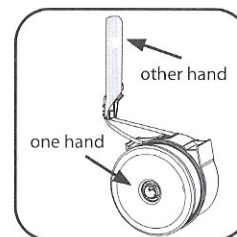

Figure 4
5. Hold Plastic Handle in one hand and the Refill in the other (connected by the sleeve). (Fig. 4)